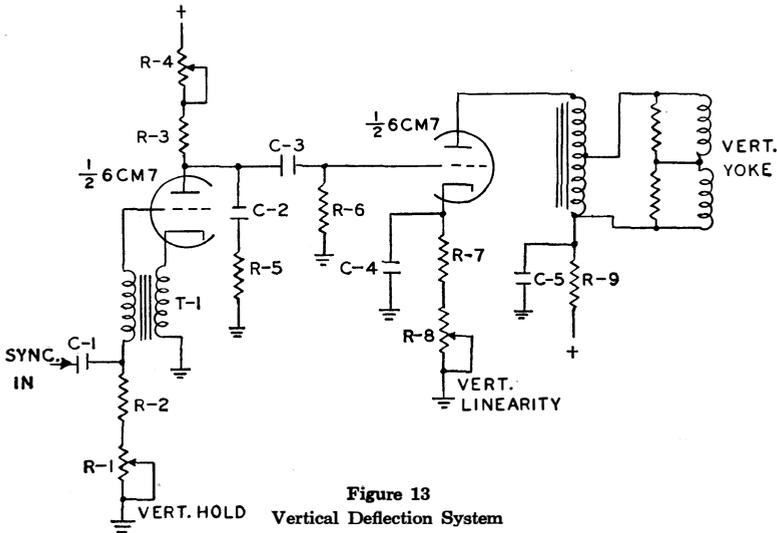

Figure 13
1. Using the Vertical Grid Drive pulse available on the front of the Television Analyser, apply this signal to the vertical output stage grid (see Fig. 13). If, when this signal is applied, the image develops vertical deflection, then we know that the proper driving signal is not being supplied to the output stage by the vertical oscillator. The defect is either in the oscillator itself or in the capacitor (C-3) coupling the oscillator to the output stage. However, if vertical deflection of the image does not occur when the signal is injected at the grid of the output stage, the defect is located somewhere between this grid and the deflection yoke.
The grid driving pulse signal may not necessarily result in linear deflection on the screen of the television receiver. However, we are primarily interested in the presence or lack of deflection. A closer approach to good linearity can be obtained by adjusting the linearity control in the receiver (R-8) in Fig. 13 and by adjusting the Vertical Drive Amplitude control located on the front of the Television Analyser. In all cases this control should be at maximum when first starting to troubleshoot vertical deflection systems.